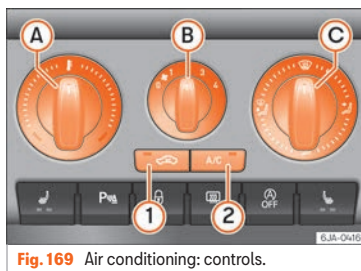

Fig. 169 Air conditioning: controls.
The air cooling system only works if button **A/C** **2** » **Fig. 169** is pressed and under the following conditions:
- Turn rotary control **A** » **Fig. 169** clockwise to increase the temperature.
- Turn rotary control **B** » **Fig. 169** to position 1 to 4 to switch the blower on.
- Turn rotary control **C** » **Fig. 169** to select the air vents » **page 147** you wish to activate.
- Press button **A/C** **2** » **Fig. 169** and the lamp in the button will illuminate.
If the rotary switch **C** »» Fig. 169 is in the thaw position, the recirculation flap will always be open (button light off).
- Press button **1** »» Fig. 169, the switch's lamp will light up, indicating that air recirculation inside the vehicle has been activated.